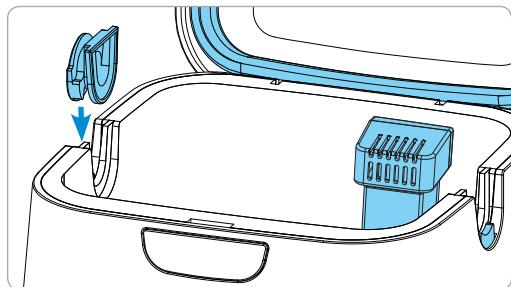

Figure 6. Install Removable hose slot plug
2. Install the Removable hose slot plug into one open slot (Figure 6).
Orientate the Removable hose slot plug as shown in Figure 6. The round face of the Removable hose slot plug is on the outside of the SoClean 2.